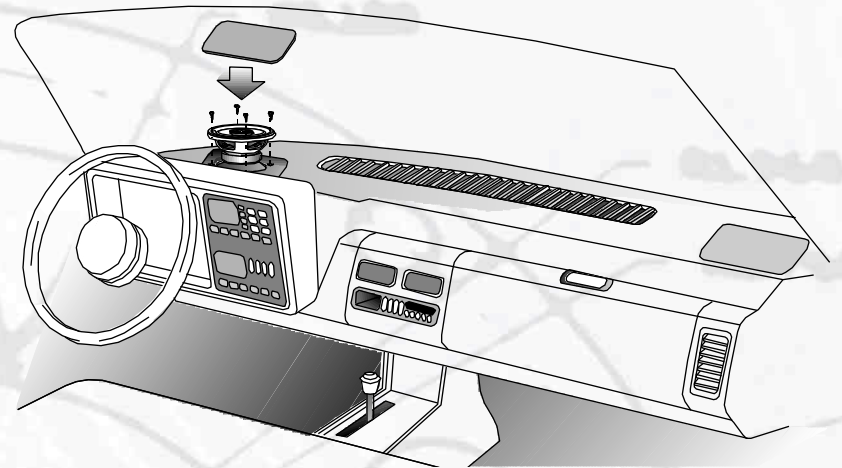

Figure 3 - Factory dash speaker location.
1. Vehicles with dashboard speaker locations (Figure 3) typically will not require modification. Use extreme caution when removing the factory grills.